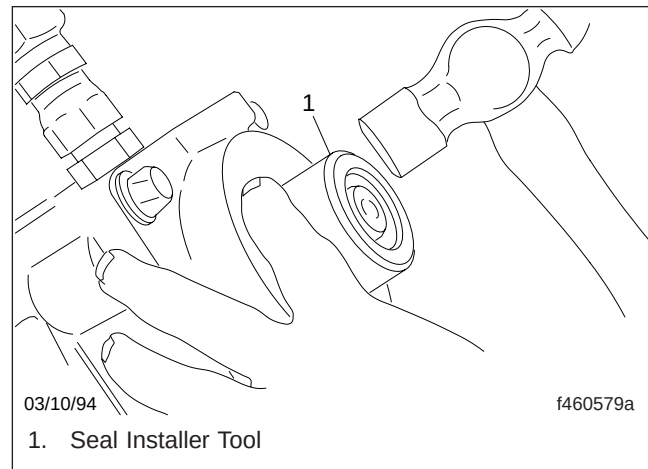

Fig. 6, Seal Installer Tool Position
- 14.2 Using a hammer and seal driver (J37073), tap the driver until the shoulder of the driver is square against the valve housing. See Fig. 6. Remove any seal material that may have sheared off in the seal bore or retaining ring groove.